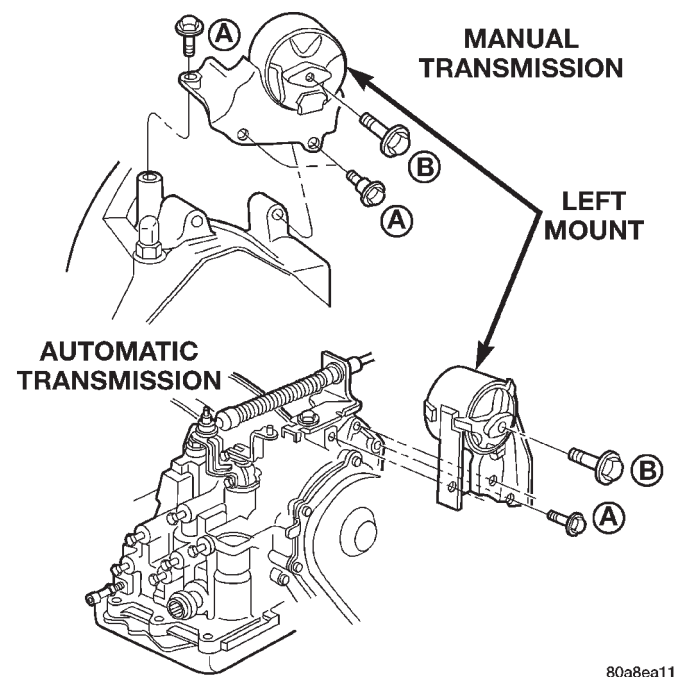

Fig. 12 Engine Mounting—Left
- (1) Raise vehicle on hoist and remove left front wheel.
- (2) Remove the Power Distribution Center (PDC) on manual transaxle model, from battery tray mount and lay aside.
- (3) Support the transmission with a transmission jack.
- (4) Remove the thru-bolt access hole cover. Remove the insulator thru-bolt from the mount (Fig. 12).
- (5) Remove the transmission mount fasteners and remove mount.
- (6) Reverse removal procedure for installation. Tighten fasteners in this order (Fig. 12):